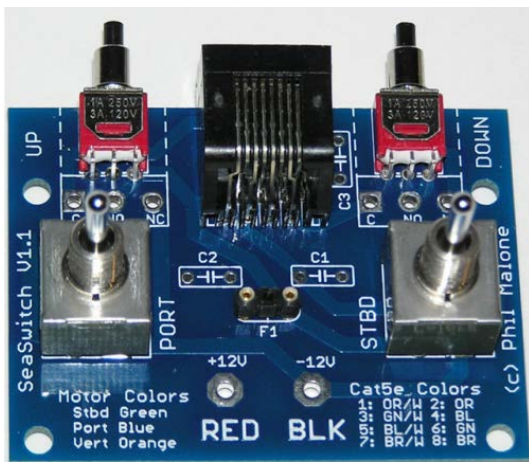

Figure 3.3-7: A Completed PCB
7. Re-examine all of the solder connections on the PCB as a final check for solder bridges or connections that don't seem to have enough solder. Re-solder them if needed. The soldered side of the completed PCB should look similar to the one shown in Figure 3.3-6. The completed PCB should look like Figure 3.3-7.